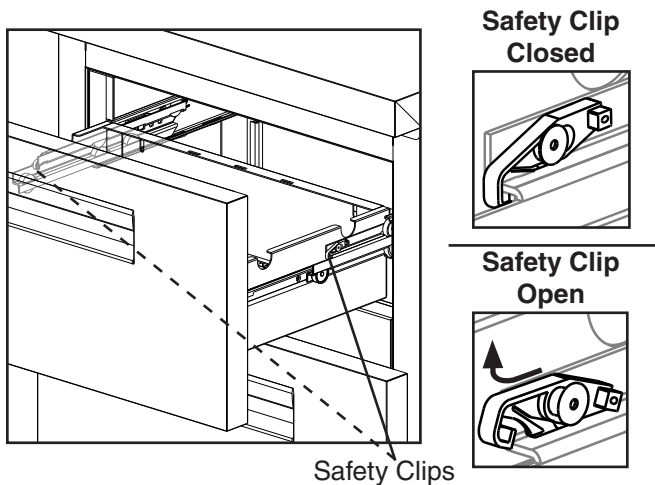

Fig. 43
- **To remove a drawer:** Remove all items from the drawer. Pull the drawer out to its fully extended position. Open the safety clips (one on each side) by sliding them forward, then rotating them up. See Fig. 43. Lift up on the handle slightly, then pull to disengage the drawer. Be sure to support the rear and front of the drawer while removing it.